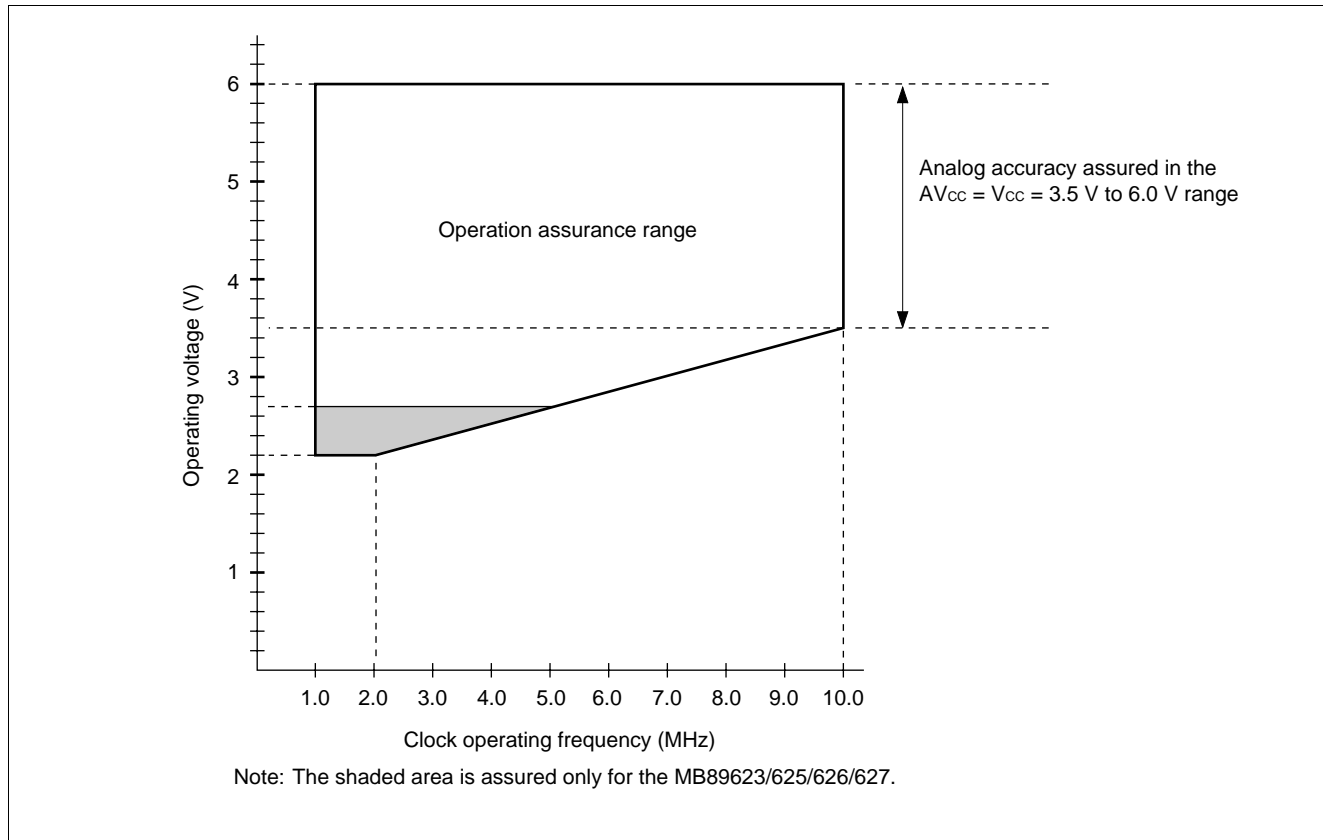

Figure 1 Operating Voltage vs. Clock Operating Frequency
*: These values vary with the operating frequency and analog assurance range. See Figure 1 and "5. A/D Converter Electrical Characteristics."
Figure 1 indicates the operating frequency of the external oscillator at an instruction cycle of 4/F_C.